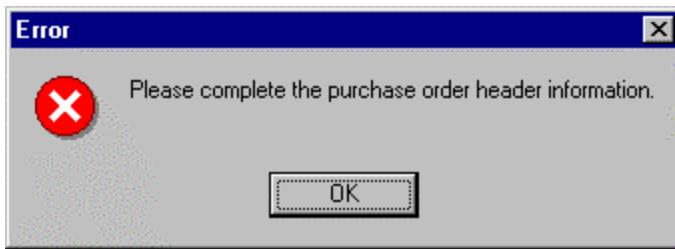

Figure 2-28. Purchase Order Error Message
- ◆ If it finds an incomplete or empty required field such as the Shipping Sent To or Billing Sent To field, it will display an Error message (*Figure 2-28*) and keep the Order window open so that you can add the information.